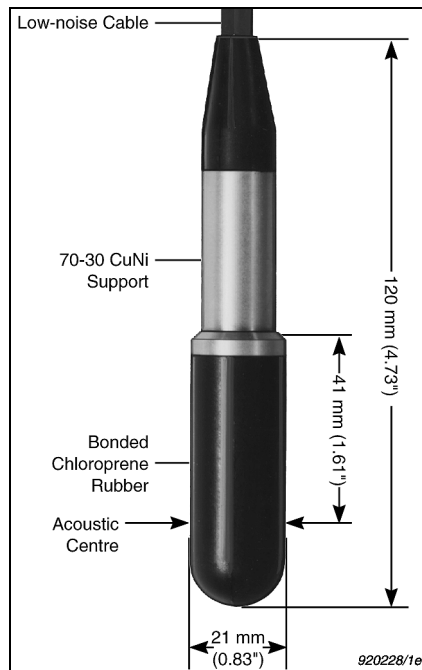

Fig. 2 Hydrophone Type 8104
**Hydrophone Type 8104.** A wide-range standard measuring transducer for making absolute sound measurements over the frequency range 0.1 Hz to 120 kHz with a receiving sensitivity of  $-205$  dB re  $1$  V/ $\mu$ Pa. It can also be used as a sound transmitter (projector) which makes it ideal for calibration purposes by the reciprocity, calibrated-projector and comparison methods. The main features of the 8104 are shown in Fig. 2.